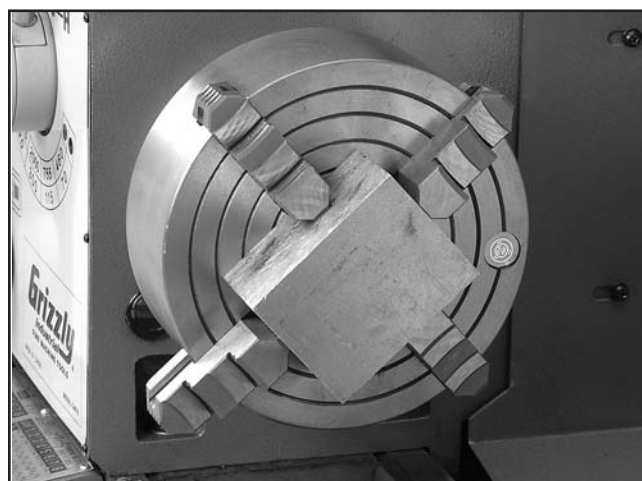

Figure 26. Properly held workpiece for offset machining at low RPM.
6. After the workpiece is held in place, back the tailstock away and rotate the chuck by hand. The center point will move if the workpiece is out of center (see **Figure 26**).